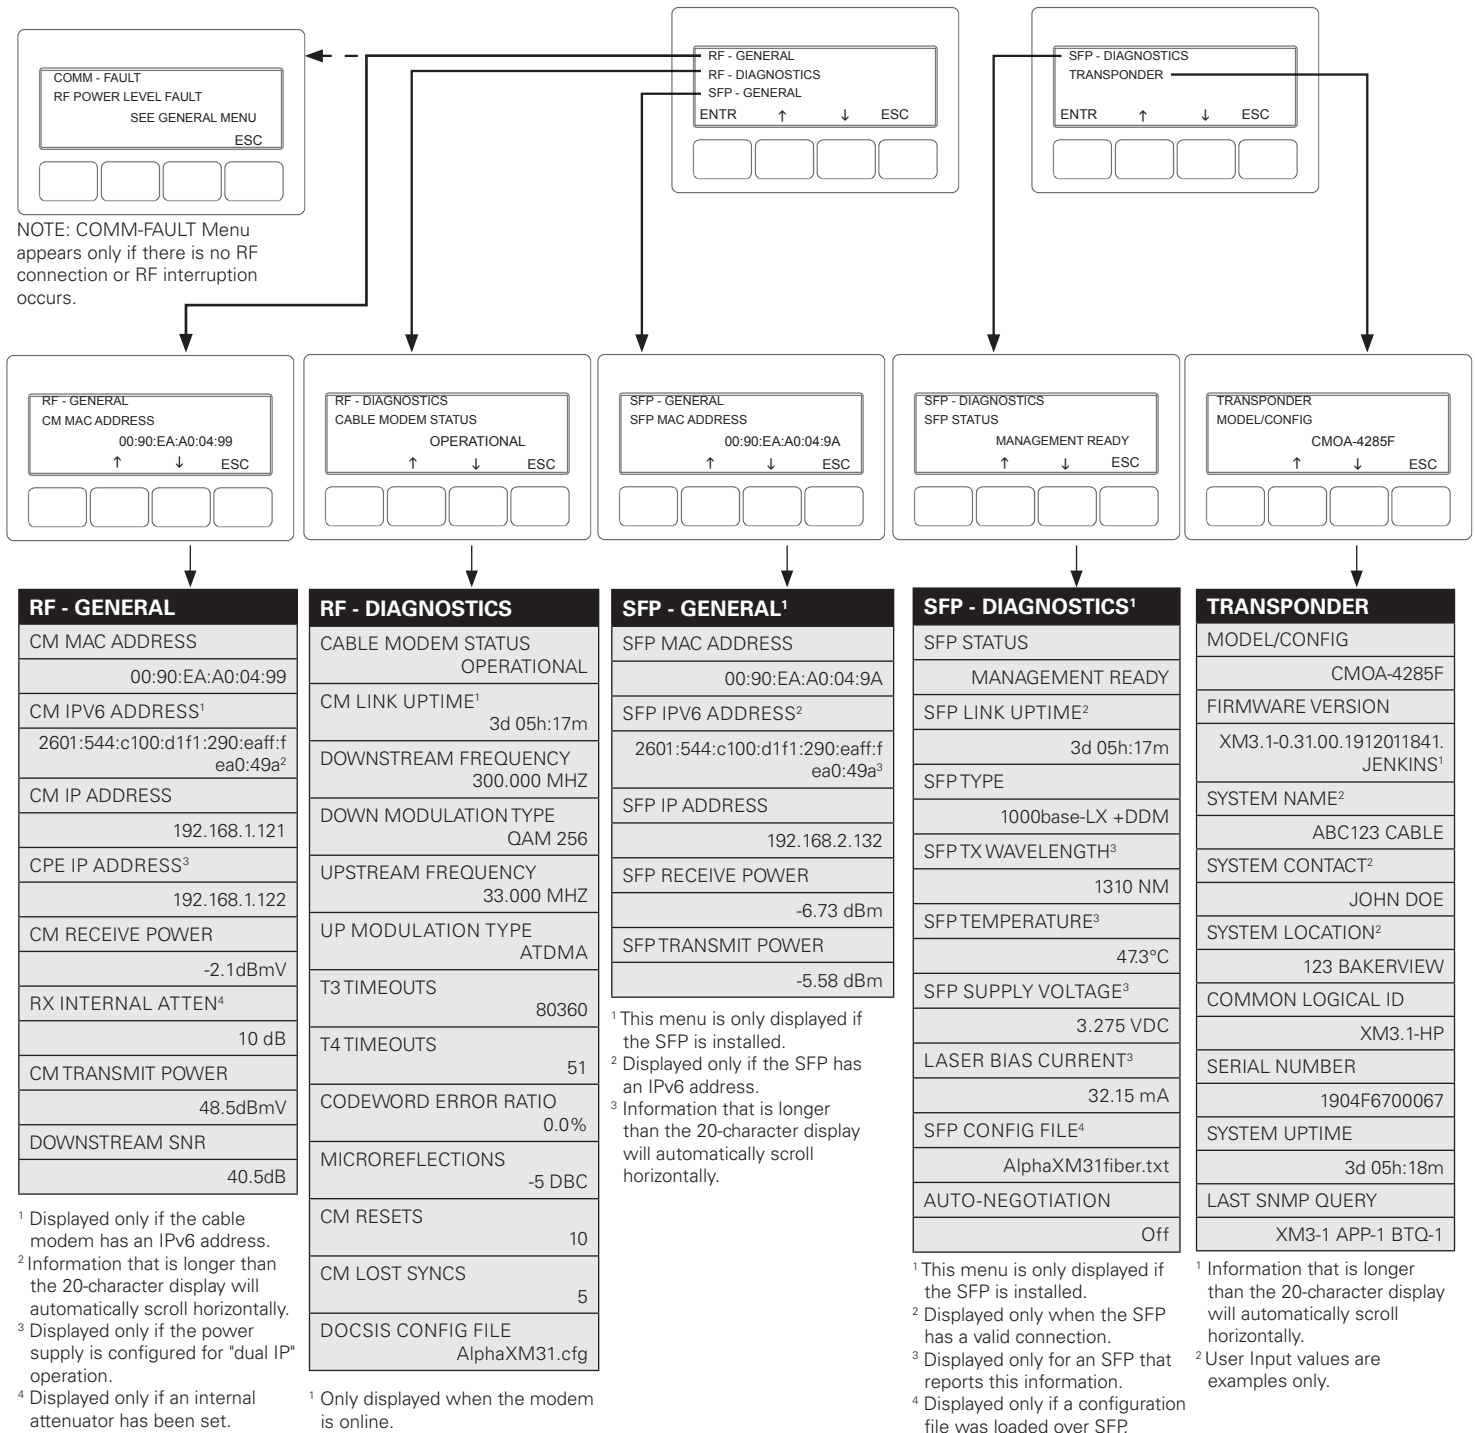

Fig. 2-29 COMM Menu Options
6. A dialog box much like **Fig. 2-29** will pop up. Click **Internet Protocol (TCP/IPv4)** and then click the **Properties** button.